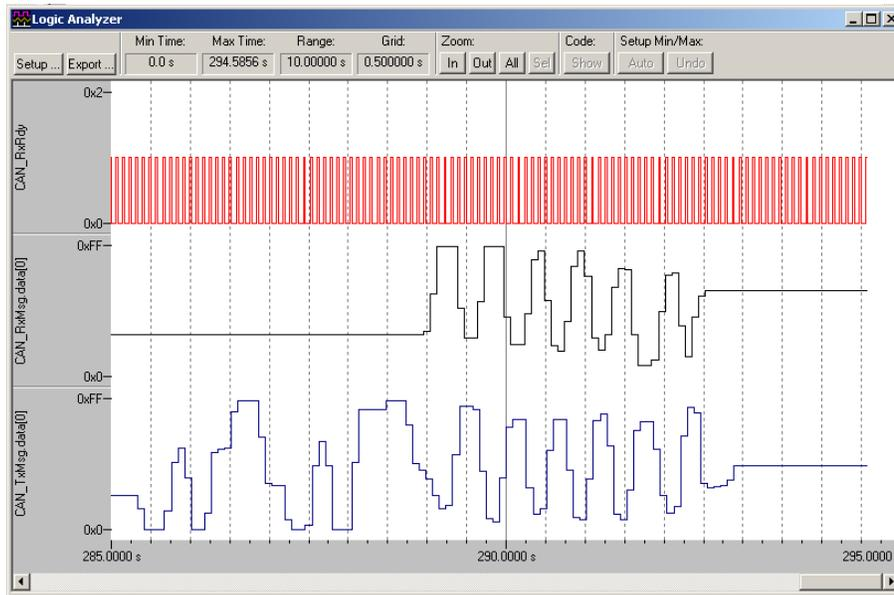

Figure 33 CAN data from each board
1. Connect the two MCBSTM32 boards together as shown Figure 33. Pins 2 together and pins 7 together.